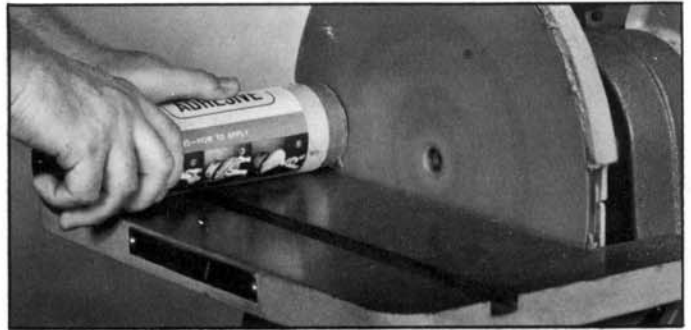

Fig. 2.
1. The disc adhesive is applied by holding the stick of adhesive against the disc as it is turning, as shown in Fig. 2. The adhesive should be at least 1/16 of an inch thick on the disc.